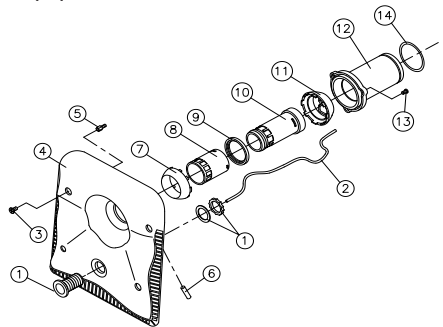
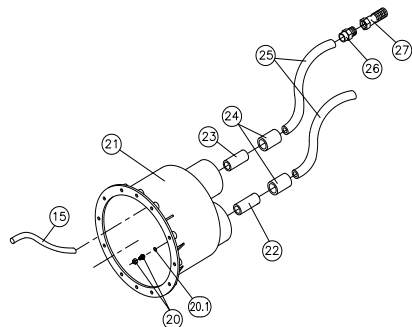

Fig. 3
Fig. 2
El tubo transparente (nº 2, fig. 2) lo conectaremos al microinterruptor situado en la parte superior derecha del cuadro, es muy importante asegurarse de que el tubo transparente, no queda doblado.
**3.1** To fix the niche (no.21, fig.2) in a concrete wall, only the instructions given in chapter 2 (place of installation) need be followed.
**4.1** The niche is supplied with pipes no.22 and 23, (fig.2) already installed. Additionally, one of the hoses (no.24, fig.2) is supplied glued inside pipe no.22.
This line is made up of a hose (no.24), a flexible pipe (no.25), a male screw fitting (no.26) and a foot valve (no.27). All these parts are supplied fitted, so it is only necessary to glue the end of the hose (no.24) to the pipe (no.23) which is already fitted in the niche. It is important to fix the air line pipe to the wall of the housing so as to ensure that foot valve is in the upper part. This is so as to avoid sucking up dirt (see fig. 8, page 20). Lastly, install the flexible pipe (no.15, fig. 2) pressing it inside the nozzle in the interior of the niche (see fig.5, page 17).
This line is made up of a pipe (no.22), a hose (no.24) and a flexible pipe (no.25). As the pipe (no.22) and the hose (no.24) are already installed in the niche, you only need to glue the pipe (no.25). Before gluing the end of the pipe (no.25) to the hose (no.24), fit the transparent pipe (no.2, fig.3) into the pneumatic line and pass the end of the transparent pipe (no.2, fig. 3) through the hole in the niche. Fix it in position with the clamp (no.20 and 20.1, fig.2). Once this is complete, glue the pipe (no.25) to the hose (no.24). The end of the transparent pipe (no.2, fig.3) will be connected to the microswitch located on one side of the hydro-pneumatic cut out included with the HIDROJET equipment.